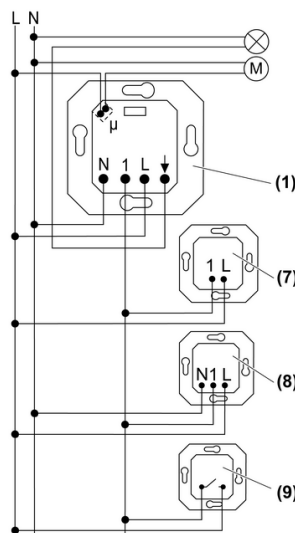

Figure 2: Connection diagram with optional extensions
- (1) Flush-mounted insert
- (7) Extension insert, 2-wire
- (8) Extension insert, 3-wire
- (9) Installation button, NO contact
- Connect insert according to connection diagram (Figure 2).